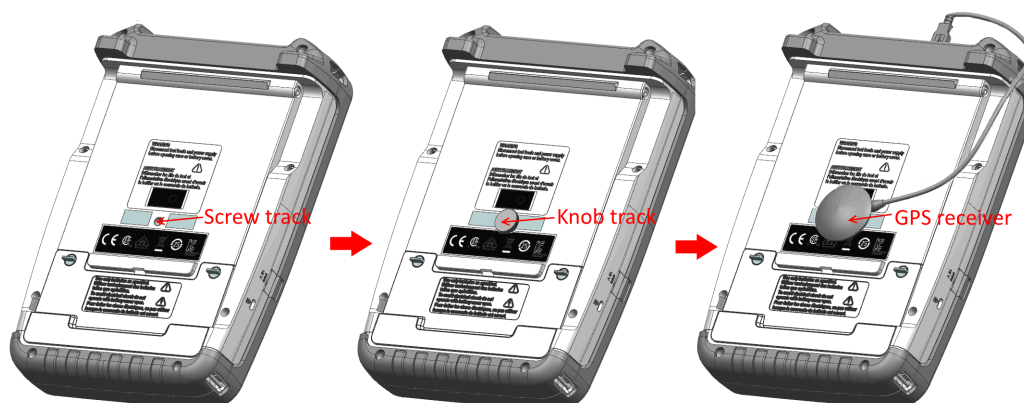

Figure 4-2: Location of GPS receiver
- The GPS receiver can be conveniently attached to the knob screw as shown in Figure 4-2.